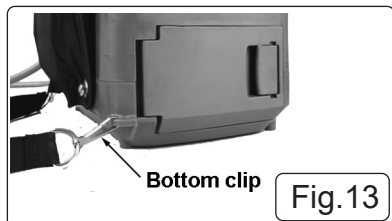

Fig.13
5.12.1. Hook each bottom clip onto its corresponding tab at the base of the sprayer (fig 13).